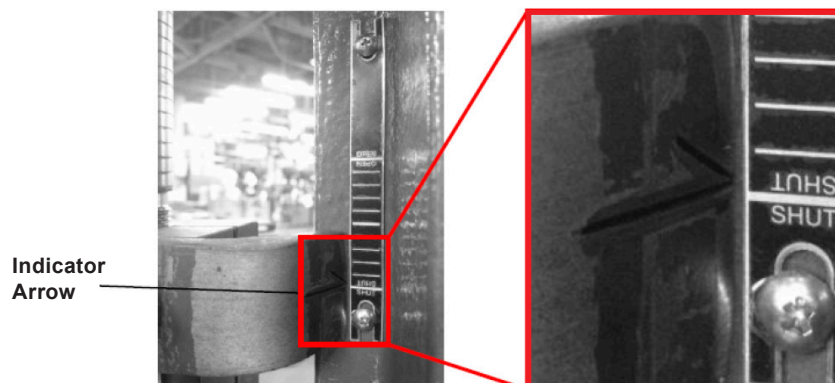

Figure 2 Indicator Arrow
10. Adjust the Indicator Plate to the correct position, as shown in Figure 2.